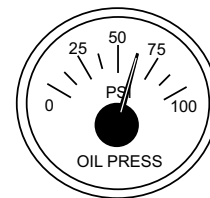

Figure 36. Oil Pressure Gauge
12. The engine oil pressure gauge (Figure 36) will indicate the oil pressure of the engine. Under normal operating conditions the oil pressure is approximately 50 psi. (345 kPa).